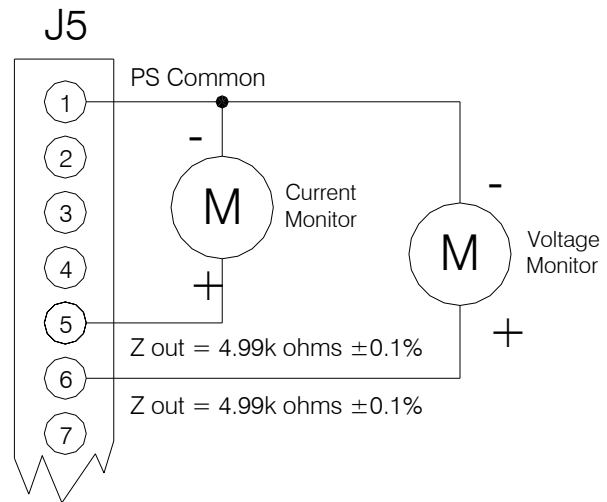

Figure 3.3 – Remote Monitor Test Point Designations
- **REMOTE MONITOR:** Test points are made available at the 25 pin D connector on the rear of the chassis for monitoring the voltage and current output. The test points are always positive regardless of the output polarity where 0V to 10V equals 0 to 100% of the output $\pm 0.5\%$. Test points have an output impedance of 5K ohms. See Figure 3.3 for the test point designation.